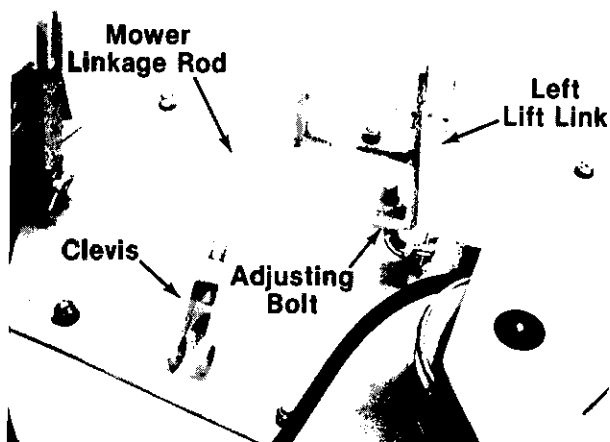

FIGURE 16.
1. Disconnect the mower linkage rod from the front foot rest support bracket by removing the quick attachable pin and rod pin through the clevis. See figure 16.
2. Adjust the clevis on the end of the mower linkage rod either up or down, depending on which measures high. See figure 16.
**NOTE:** Figure 16 is shown with deck removed from the lawn tractor for clarity purposes, only.
1. Remove the klick pin from the adjusting bolt and remove the left lift link assembly from the deck. See figure 16.